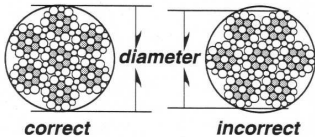

Figure 3 - Rope Diameter
- Measure the diameter of the wire cable, especially in areas where wear is noticeable. Replace the wire cable if the diameter measures below the minimum diameter at any point. **See figure 3.**